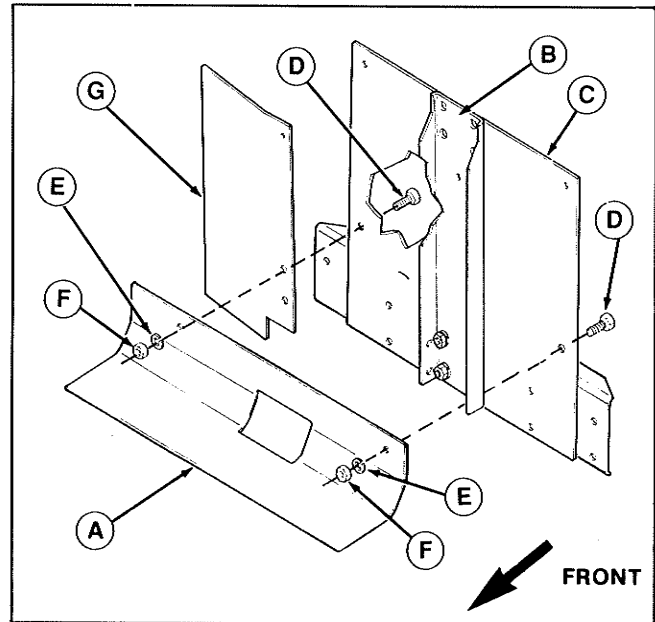

Figure 14.
21. Slide heat shield (A, figure 14) over top of vertical support (B) and align holes with back plate (C). At left side, install 5/16-18 x 5/8" capscrew (D, from rear) and secure with lockwasher (E) and nut (F).
22. On right hand side, install vertical heat shield (G, figure 14) between back plate (C) and horizontal heat shield (A). Align the holes between the three plates and install 5/16-18 x 5/8" capscrew (D), lockwasher (E), and nut (F). All top holes in plates and vertical support (B) must be aligned before tightening hardware.